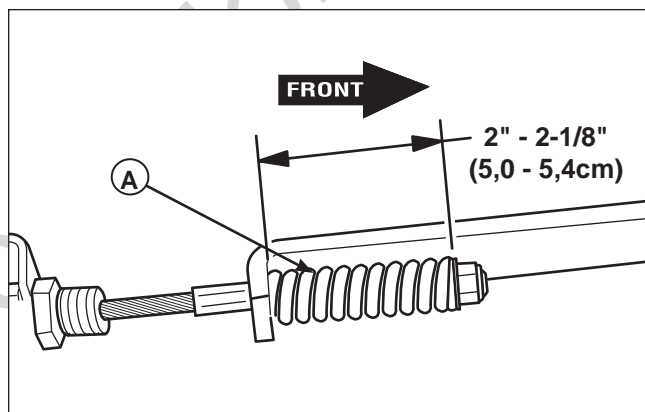

Figure 34. Parking Brake Adjustment
2. Locate the upper brake spring (A, Figure 34).